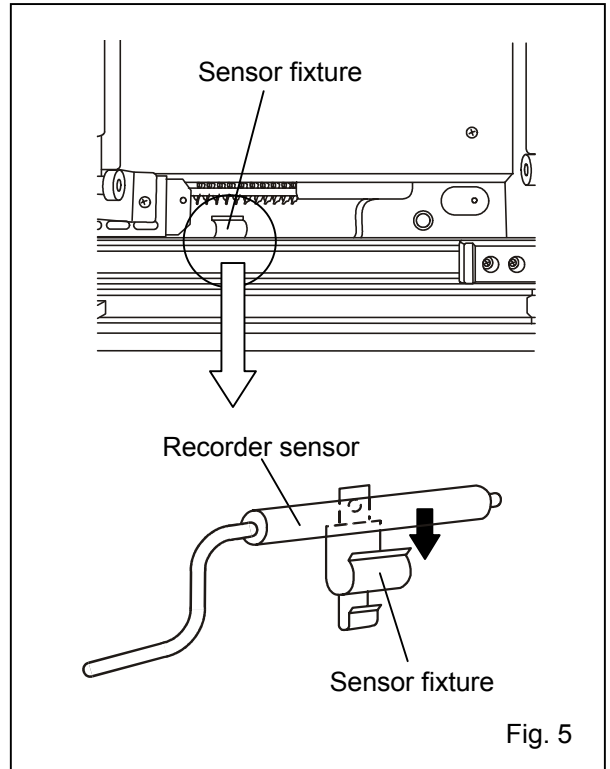

Fig. 5
7. Fix the recorder sensor to the sensor fixture. [Fig. 5]
6. Connect the harness to the battery connector and battery switch [Fig. 5] and bind the harnesses by the clip on the battery fixture. [Fig. 4]